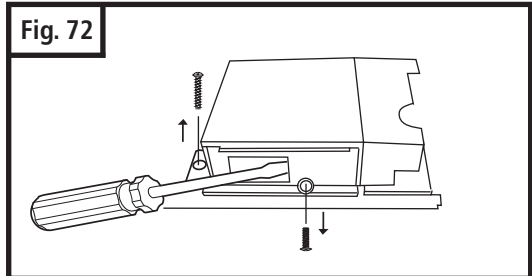

Fig. 73
- Slide power board slightly out to make room to accept terminal block on the power board pin connections as shown in Fig. 73*.